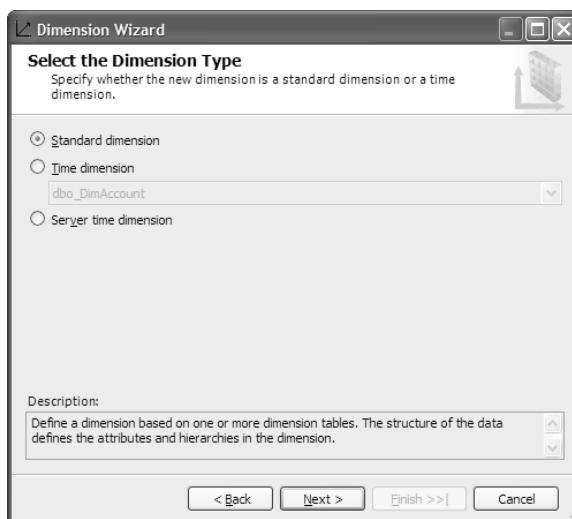

Figure 3.15 Use the Select the Dimension Type step to create a standard or time dimension.
- In the *Select the Dimension Type* step (Figure 3.15), leave the *Standard dimension* radio button selected. Click Next to advance to the Select the *Main Dimension Table* step.